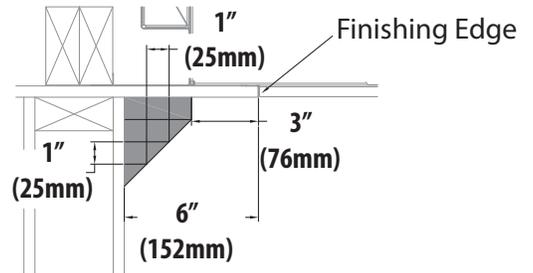

Figure 4.3, Standard Adjacent Sidewall Clearances
- **Mantel Leg:** Follow side combustible clearance below. See Figure 4.3 on page 32.
- **Side Combustible Clearance:** 1" (25mm) combustible side trim starts at 3" (76mm) from the side finishing edge. After 6" (152mm), this projection is unlimited. See Figure 4.3 on page 32.
- The adjacent sidewall minimum clearance is 6" (152mm) from the side finishing edges of the fireplace. See Figure 4.3 on page 32.